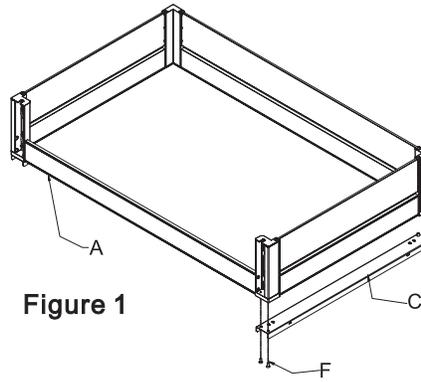

Figure 1
Use ST3X10 screws (F) to install the slide cover (C) on the basket, as shown in Figure 1.